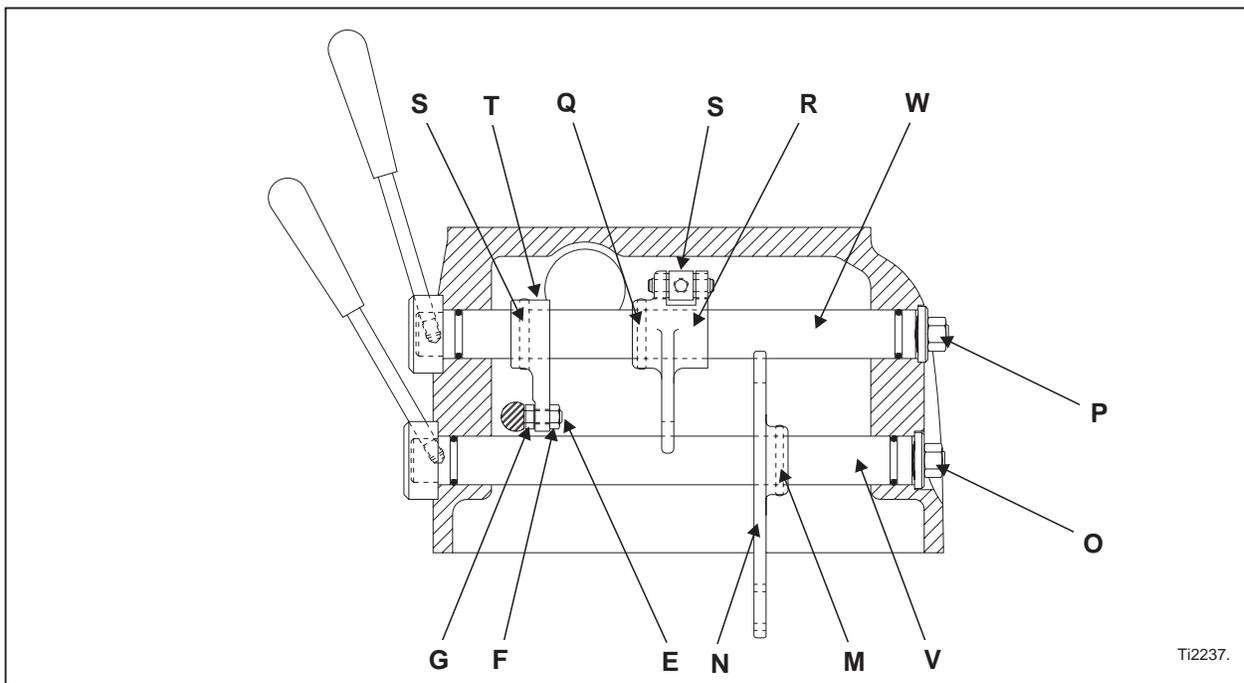

Figure 6.16 - Sectioned View of Bed Assembly (HLV®-H Machines)
Some of the remaining steps in this procedure will refer to the illustration in Figure 6.16, as well as the appropriate photograph(s).
Nut "F", Figures 6.16 and 6.17, is accessible through the opening in the bed.
37. Loosen nut "F", Figures 6.16 and 6.17 .
Taper pin "M", Figures 6.16 and 6.20, can be accessed through the spindle drive motor compartment
41. Using a hammer and punch, remove taper pin "M", Figures 6.16 and 6.20, from the lower shaft to free speed range lever "N".
42. Remove nut "O", Figures 6.16 and 6.21, washer, and spring washer.
43. Hold speed range lever "N", Figures 6.16 and 6.20, and remove shaft assembly "V", Figure 6.16, from the bed assembly.
Taper pin "Q", Figures 6.16 and 6.22, can be accessed through the spindle drive motor compartment
44. Using a hammer and punch, remove taper pin "Q", Figures 6.16 and 6.22, from the upper shaft to free reverse lever "R".
Taper pin "S", Figures 6.16 and 6.23, can be accessed through the spindle drive motor compartment.
45. Rotate the upper lever shaft to point the small end of taper pin "S", Figures 6.16 and 6.23, down toward the spindle drive motor compartment
47. Remove nut "P", Figures 6.16 and 6.21, washer, and spring washer.
48. Hold the reverse lever and stop rod lever in position and remove shaft assembly "W", Figure 6.16, from the bed assembly.
Some of the steps in this procedure will refer to the illustration in Figure 6.16, as well as the appropriate photograph(s).
2. Hold reverse lever "R" and stop rod lever "T", Figure 6.16, in position and slide shaft assembly "W" into the bed assembly.
3. Replace spring washer, washer, and nut "P", Figures 6.16 and 6.21 .
4. Align the hole in reverse lever "R", Figures 6.16 and 6.22, with the appropriate hole in the shaft assembly "W", Figure 6.16 .
5. Replace taper pin "Q", Figures 6.16 and 6.22 .
6. Align the hole in stop rod lever "T", Figures 6.16 and 6.23, with the appropriate hole in shaft assembly "W", Figure 6.16 .
8. Hold speed lever "N", Figures 6.16 and 6.20, in position and replace shaft assembly "V", Figure 6.16 .
9. Replace spring washer, washer, and nut "O", Figures 6.16 and 6.21 .
10. Align the hole in speed lever "N", Figures 6.16 and 6.20, with the hole in shaft "V", Figure 6.16 .
11. Replace taper pin "M", Figures 6.16 and 6.20 .
13. Replace screw "E" and block "G", Figures 6.16 and 6.17 .